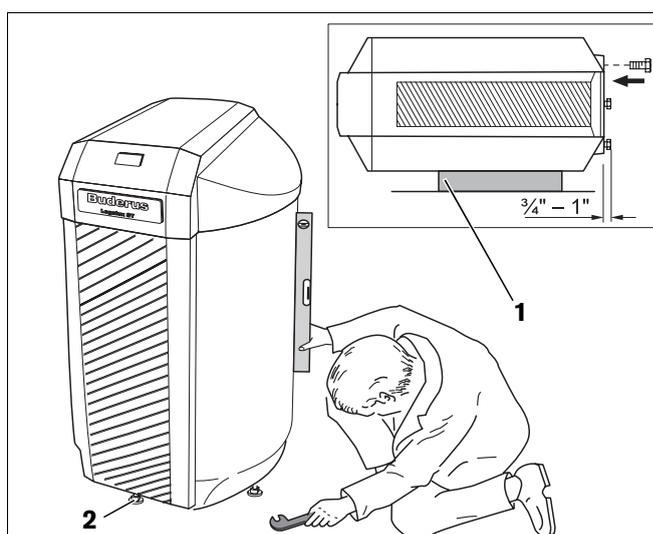

Fig. 5 Leveling the DHW tank vertically
- Place the lid protector (Fig. 5, **Item 1**) on the floor.
- Screw in the three adjustable feet supplied (Fig. 5, **Item 2**) up to  $\frac{3}{4}$ " – 1".